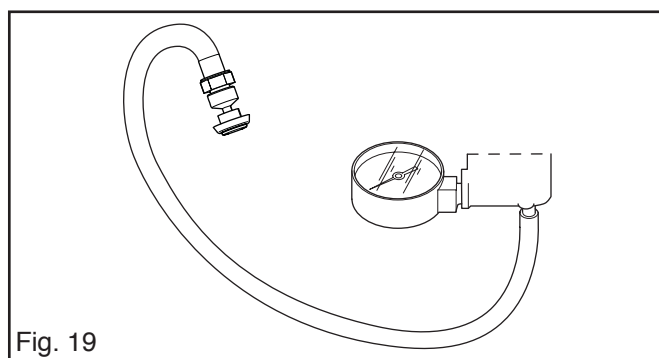

Fig. 19
7. Pressure test the decompression valve as follows. See also fig. 19.